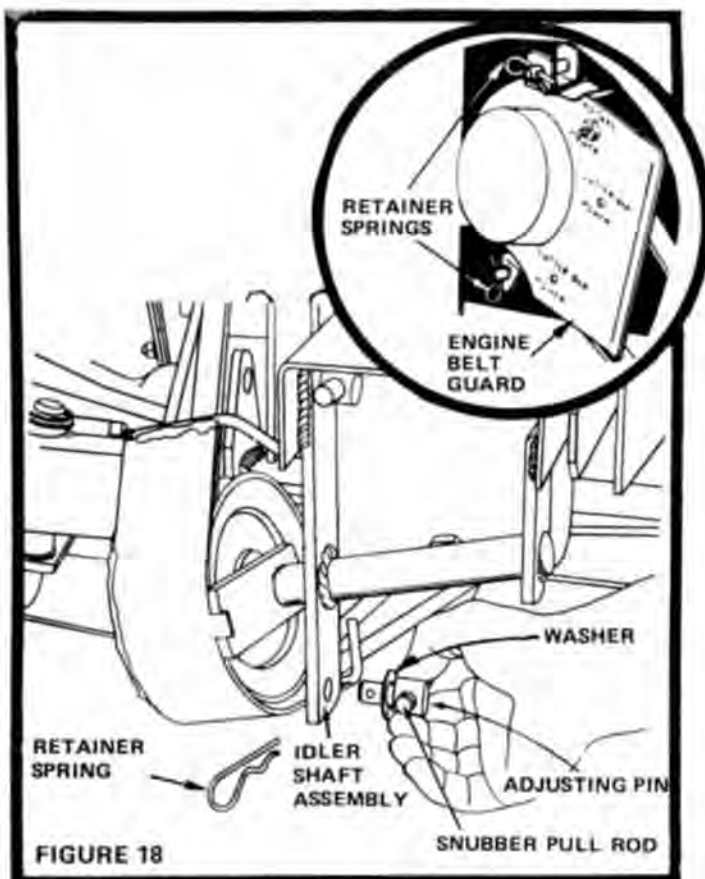
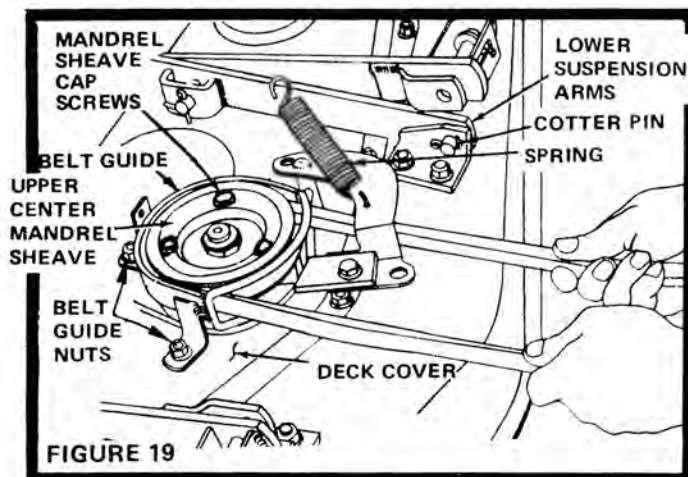
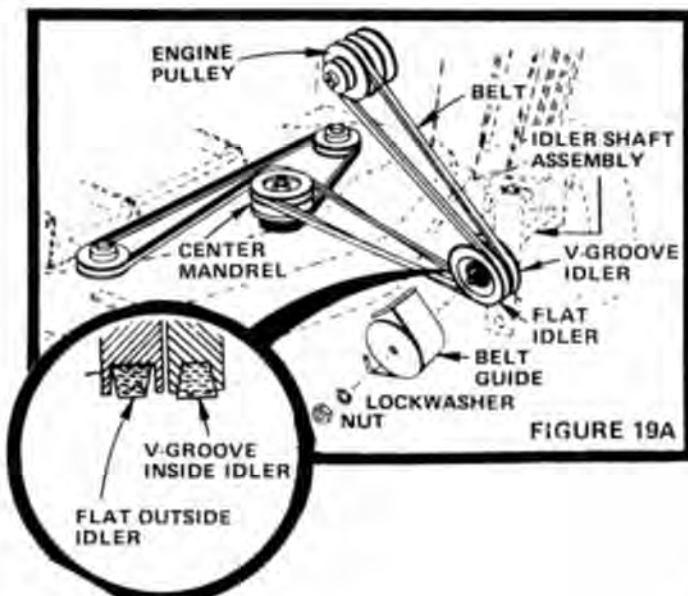

FIGURE 18
FIGURE 19
FIGURE 19A
(Refer to Fig. 18). Remove Retainer Spring from Adjusting Pin on Snubber Pull Rod in Idler Shaft Assembly. Remove Adjusting Pin from hole.
1. Unhook Spring from rear belt guide bracket of Belt Guide (Fig. 19).
2. Remove Belt Guide at center mandrel by removing three (3) Nuts and Lockwashers.
3. Remove Nut and Lockwasher from Idler Shaft Assembly and remove Belt Guide (Fig. 19A). Also remove Engine Belt Guard and Belt (Fig. 18).
4. Install new Belt on Center Mandrel first, then on Idler Sheaves and on Engine Pulley. NOTE: See Fig. 19A for proper way of installing Belts on Idler Sheaves. Backside (outside) of Belt must be placed in flat (outside) Idler. Belt must be placed in largest groove of Engine Pulley. Replace Belt Guide securely.
5. Replace Engine Belt Guard (Fig. 18).
6. Replace Belt Guide and snubber at center mandrel and adjust so that there is 1/16 to 1/8 inch clearance between it and the Sheave. Replace Spring (Fig. 19). Adjust drive belt and snubber refer to page 4, steps 1 thru 8.
2. Unhook Spring from rear of Belt Guide. Remove Belt Guide at center mandrel by removing the 3 Belt Guide Nuts, Lockwashers, and Flat Washers (Fig. 19).